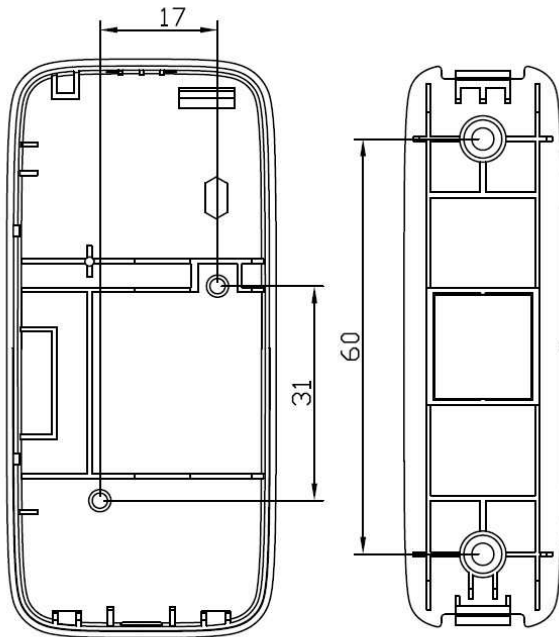

Figure 4-10
Step 3. Follow Figure 4-10, pre-drill two holes on fixed part of door/window frame, and pre-drill two holes on mobile part of door/window.